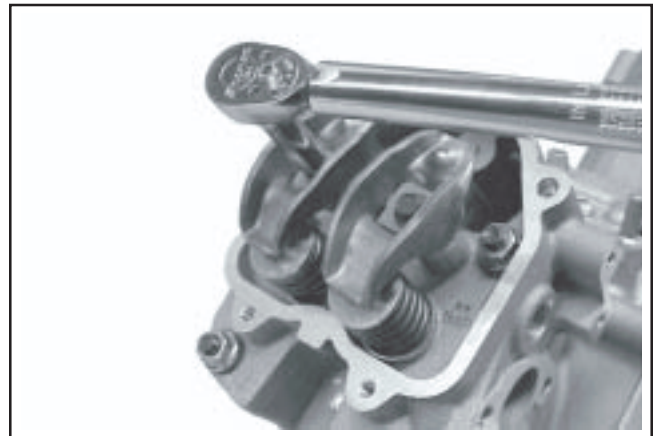

Figure 11-38. Installing and Torquing Rocker Arm Mounting Screws.
3. Install two **new** hex. flange rocker arm screws with Dri-Loc® thread locking compound on the threads. Torque the screws to **11.3 N·m (100 in. lb.)**. When tightening, use a steady motion, without interruption, until the proper torque is achieved. The frictional heat from the engaging threads may otherwise cause the locking compound to set prematurely. If new screws are not available, apply Loctite® No. 242 to the bottom four or five threads. Then install and torque the screws to **11.3 N·m (100 in. lb.)**. See Figure 11-38.